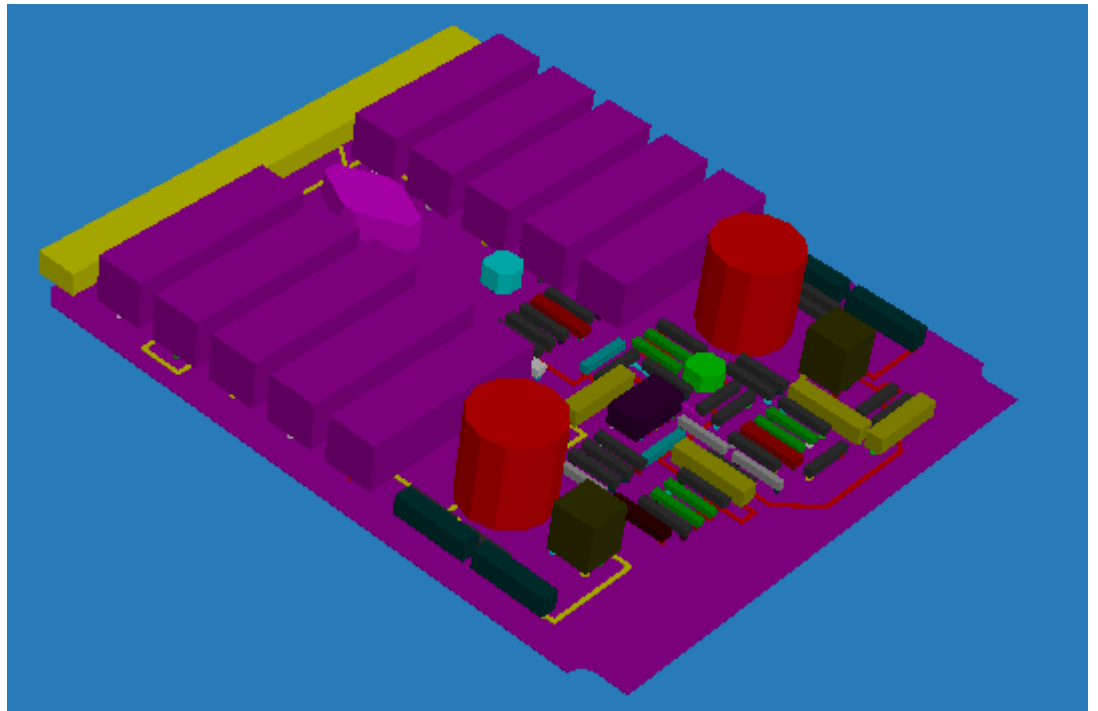

Figure 6. PCA and PCB 3D view
- If the PCA design is selected, then the user has a possibility to convert PCA and/or PCB designs (see Figure 6).